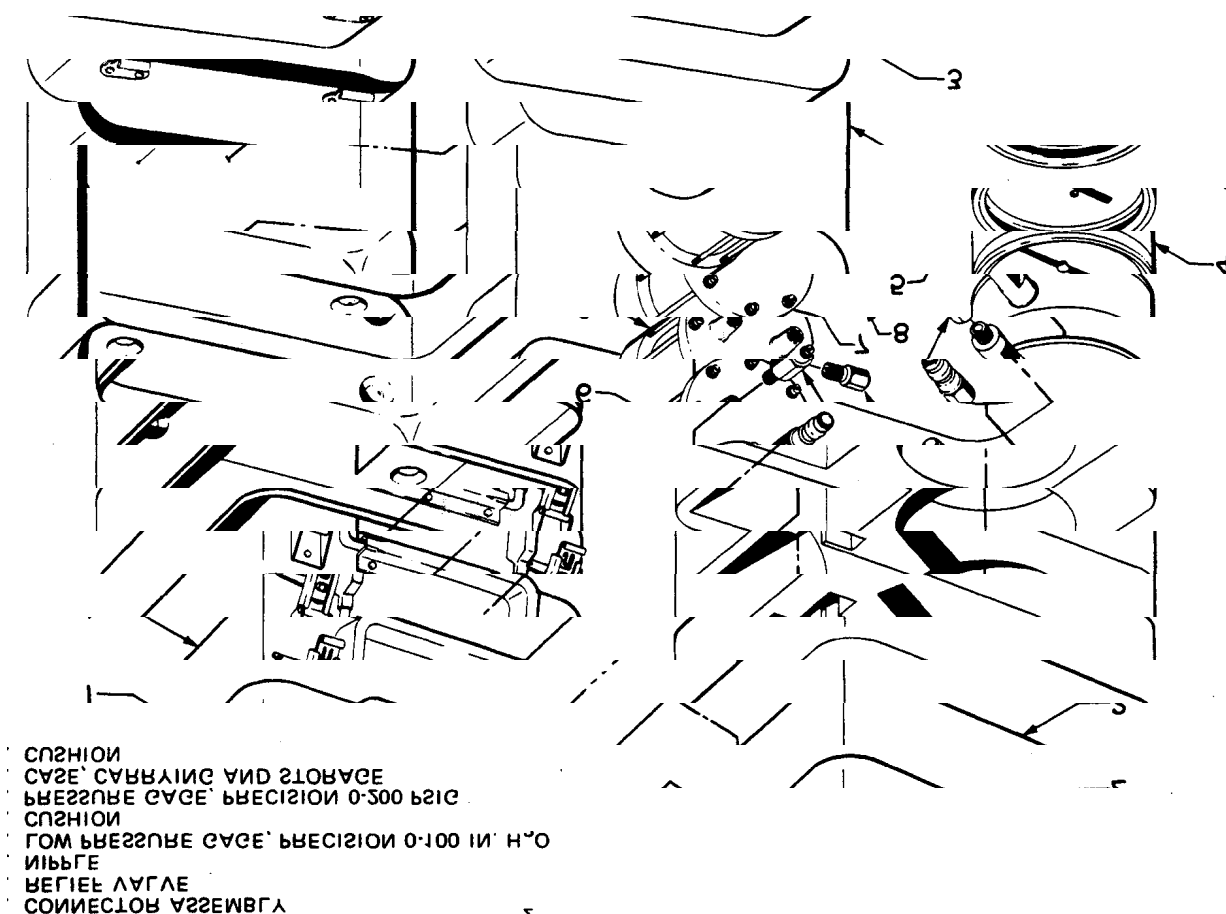

Figure 1-3.—Pressure Gage Calibration Kit.
1. Close system bleed valve V-5 and open the oxygen supply cylinder valve. Connect precision-0-to-100-in. H₂O low-pressure gage 6 (figure 1-3) to bell jar bottom coupling C-1. Open differential pressure shutoff valve V-8.
1. Connect precision-0-to-200-psig pressure gage 4 (figure 1-3) to bell jar bottom coupling C-1.
1. With precision-0-to-200-psig test gage 4 (figure 1-3) still attached to bell jar bottom coupling C-1, open oxygen supply valve V-6 until 7.5 psig is indicated on the precision-0-to-200-psig test gage. The pointer of low-pressure